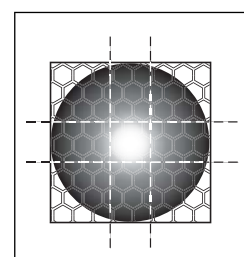

Fig 23 Detector aligned
- At the end of the panning and tilting alignment procedures the centre of the beam should be projected onto the centre of the reflector, as shown in *Fig 23*. The LEDs will not be illuminated.